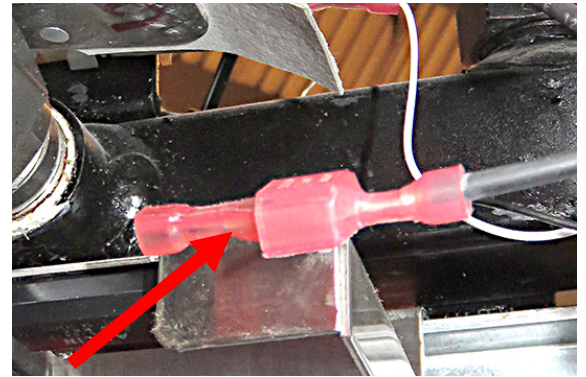

Figure 14
17. Attach the female terminal, removed in step 14, to the male end of the harness (see Figure 14).